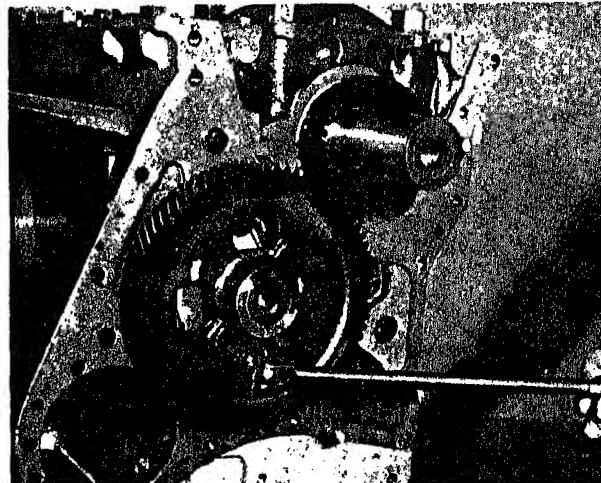

Fig. 14-1-21. Securing camshaft bearing retainer to block
4. Slide camshaft completely into block; align bearing retainer mounting holes with those in block and secure with lockwashers and capscrews through openings in camshaft gear, Fig. 14-1-21.